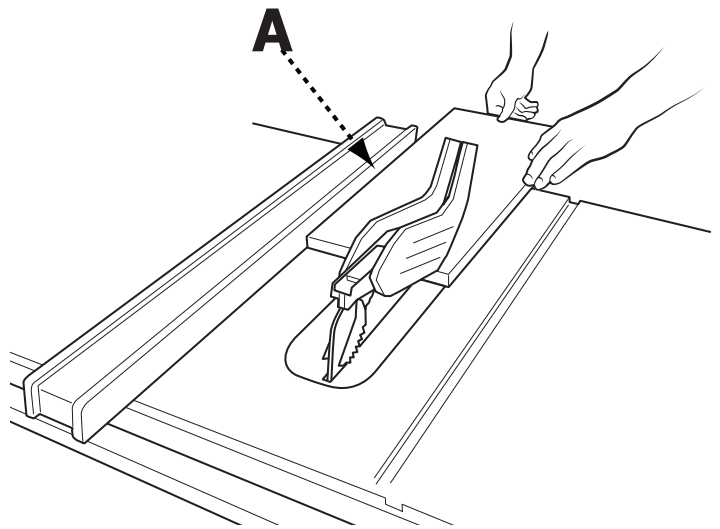

Figure 21
8. Hold the workpiece flat on the table and against the fence (A). The workpiece must have a straight edge against the fence and must not be warped, twisted or bowed. See proper hand position in (Fig. 21).